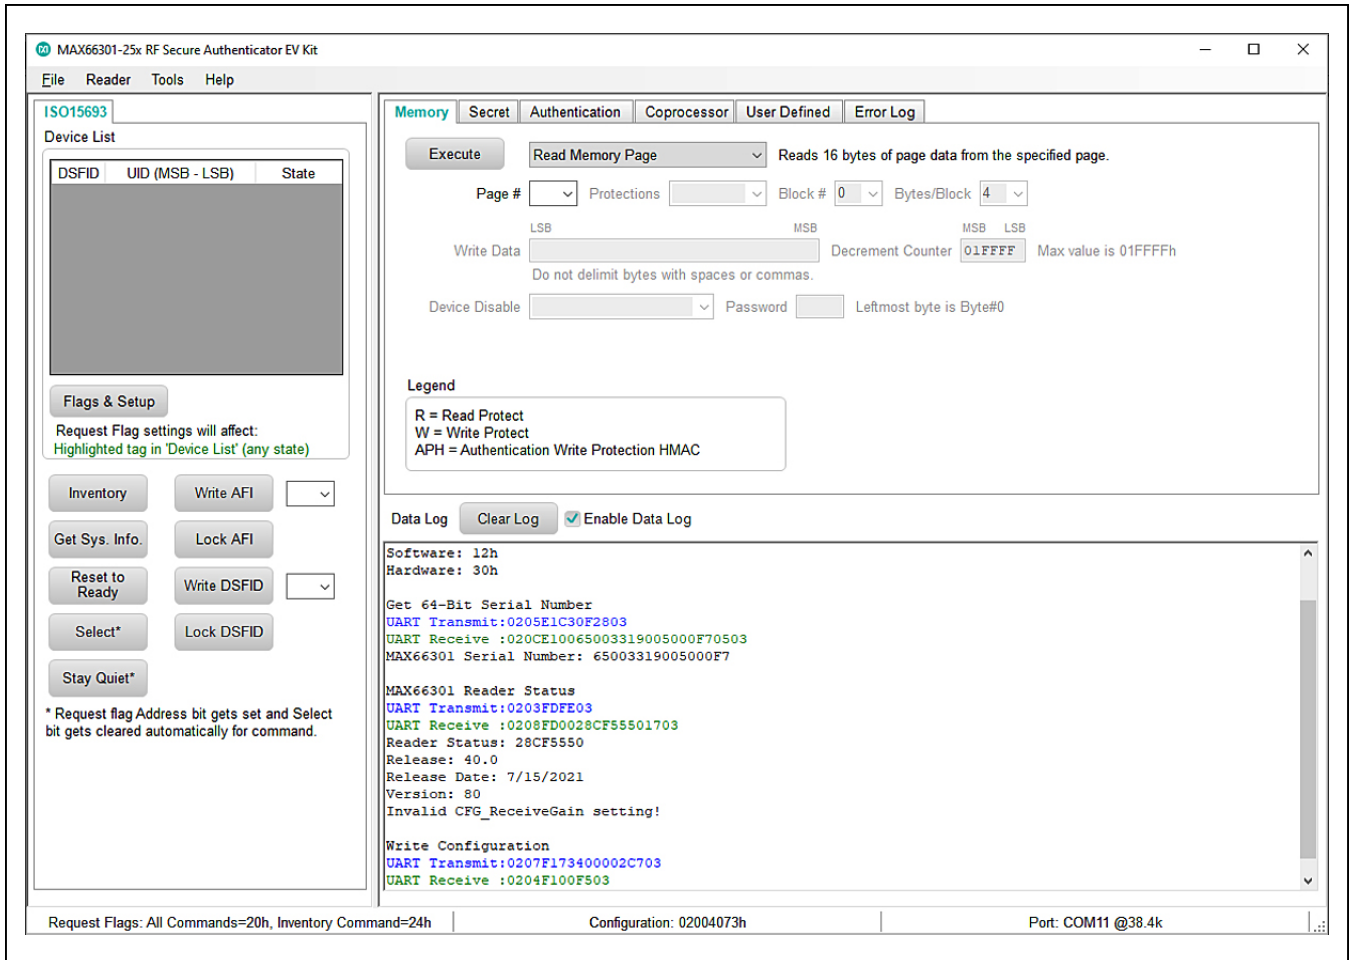

Figure 4. MAX66301-25x EV Kit GUI
- 7) The evaluation program GUI appears as shown in Figure 4.